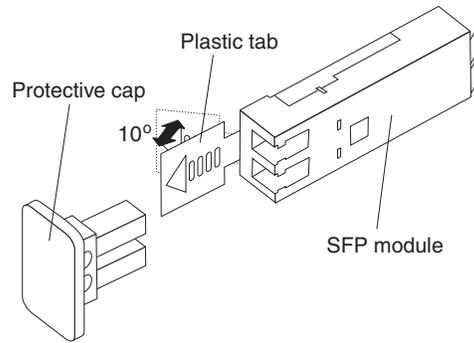

Figure 99. Unlocking the SFP module latch - plastic variety
- For SFP modules that contain plastic tabs, unlock the SFP module latch by pulling the plastic tab outward 10°, as shown in Figure 99 on page 137.